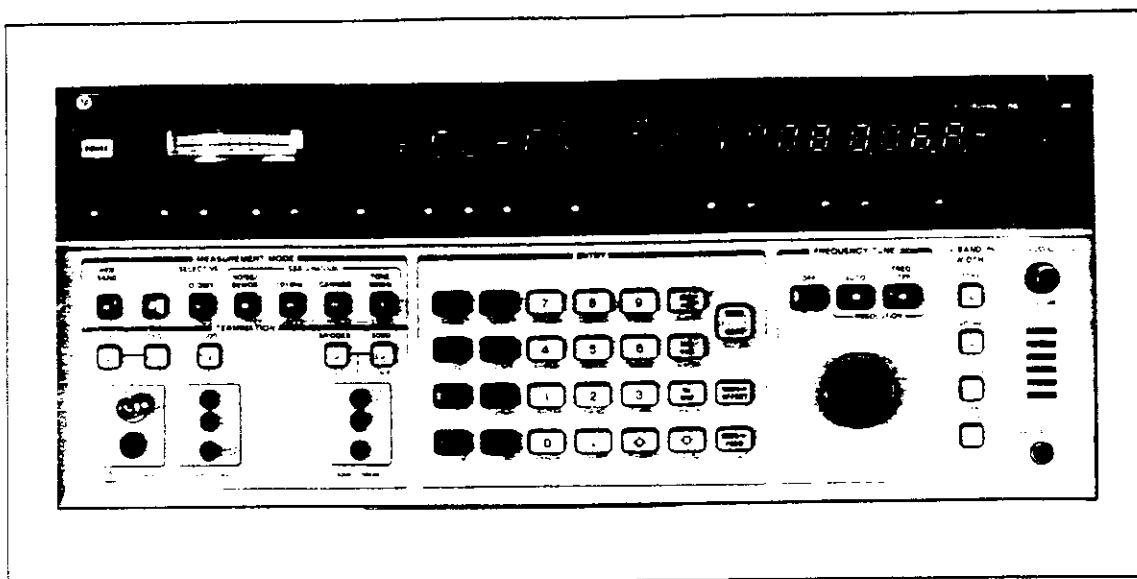

Figure 1-1. -hp- 3586A
1.2. This Operating Manual contains information relative to the installation and operation of the Hewlett-Packard Model 3586A/B/C Selective Level Meter. Figure 1-1 shows the Selective Level Meter.